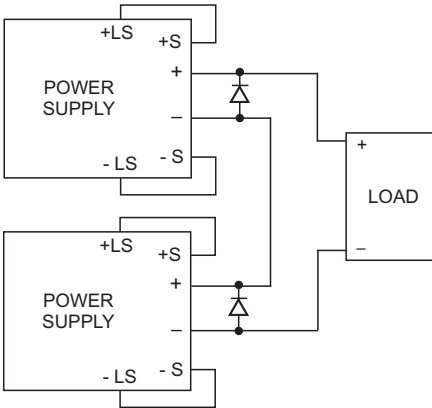

Fig. 4-12: Series connection with local sensing.
2.1 General: At this operation mode, two units are connected so their outputs are summed. Set the current limits of each power supply to the maximum that the load can handle without damage. It is recommended to connect diodes in parallel to each unit output to prevent reverse voltage during start-up condition or in case one of the units shuts down. Each diode should be rated to at least the power supply's output current. Refer to Fig: 4-12 and 4-13 for this operating mode.